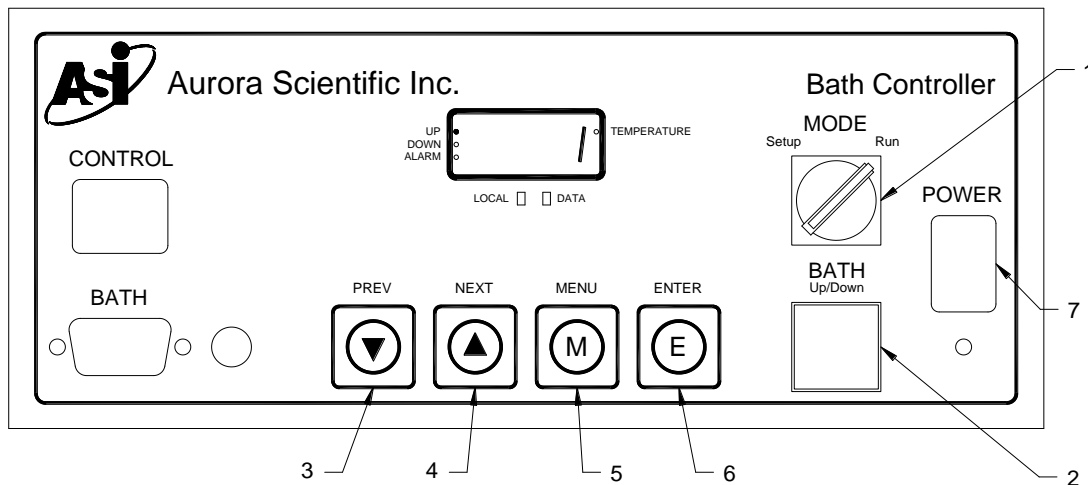
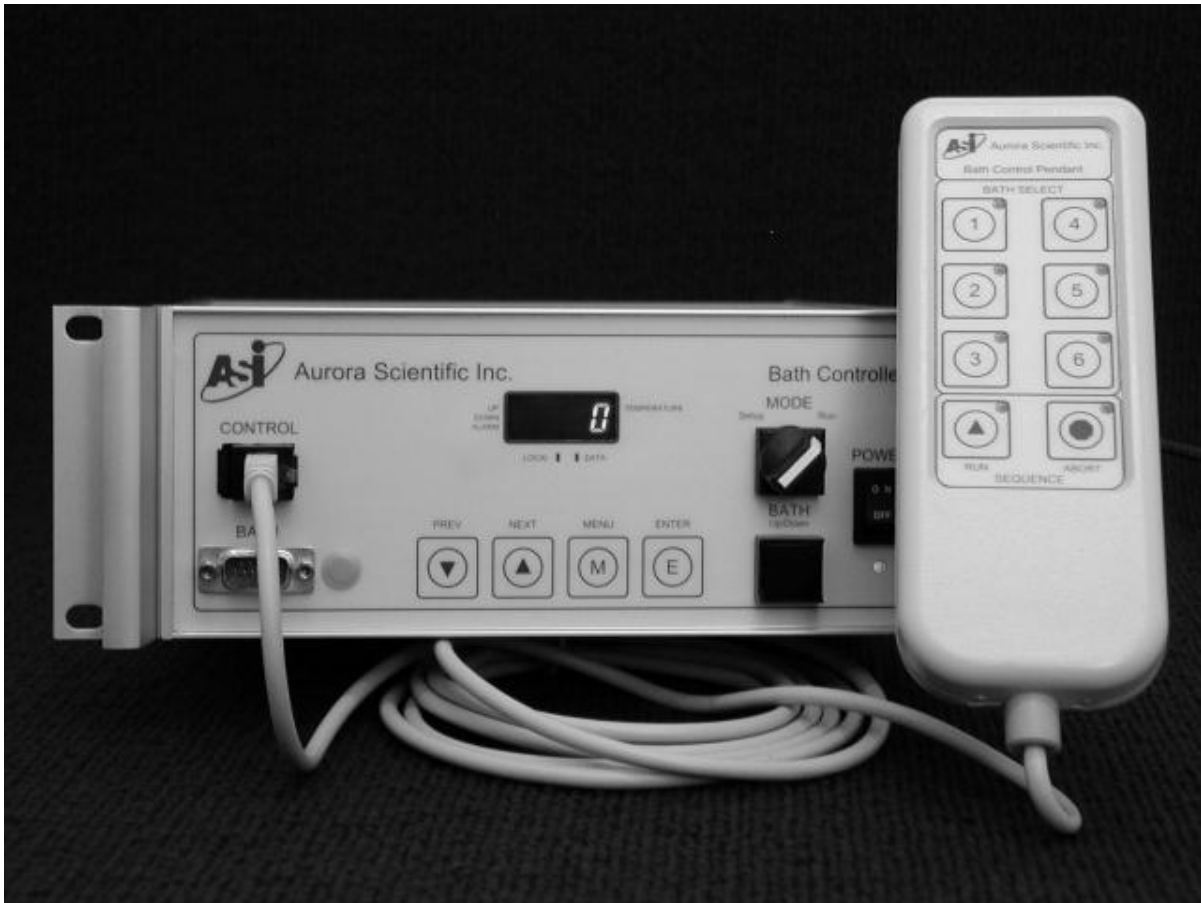

Figure 4 Diagram of Bath Controller Front Panel
Figure 5 Bath Controller with Pendant
Turn the power on using the power switch located on the front panel of the controller. The display should light and show the current position of the bath plate as well as the up/down status of the plate. A zero on the display indicates that the bath plate is in an unknown position between stations or the cable between the controller and the apparatus is not attached. Refer to Figure 4 for a detailed drawing showing the front panel controls and location of the status LEDs. Press and hold the bath 1 number on the pendant control. After about 0.5 seconds the bath plate should lower, then move to position 1 and rise. The system is now in its home (position 1) location and you can proceed to attach the motor and force transducer. Note: if the system stops at any other bath then simply press the bath 1 switch again and the system should move to bath 1. You will also note that the controller has an Up/Down switch and a Setup/Run switch. The Up/Down button will move the plate up if it is down and down if it is up. Repeated presses of this button will simply cycle the bath plate up and down. The Setup/Run switch controls the operating mode of the 802B. In the Setup position the bath will not rise at the end of a movement and the manual up/down button located on the side of the 802B will be activated. In the Run position the manual up/down button is disabled and the bath plate will automatically rise at the end of each movement. Try pressing a bath number when the Setup/Run switch is in both positions and observe the difference. When in Setup try pressing the manual up/down button located above the 15-pin connector on the side of the 802B. The bath plate will rise slowly as long as the button is pressed. When the button is released the plate will return to the down position. The Up/Down switch on the front panel of the controller is operational in both modes. Further details of the controller are provided in chapter 4.
The controller includes a microprocessor, power supply, LED display and front panel switches. The microprocessor monitors and controls the position of the bath plate. The switches on the front panel include a Mode switch (1), up/down switch (2), four menu buttons (3,4,5,6) and a power switch (7). See Figure 4 for a diagram of the front panel. The controller comes with a remote pendant control that can be placed up to 6 feet (2 m) from the controller. The pendant has eight buttons on it including a button for each bath plus Run and Abort buttons for the sequencer (see Figure 5).
The Mode switch (1 in Figure 4) has two positions, Setup and Run. Setup is used during initial equipment setup or anytime the researcher doesn't want the plate to automatically rise at the end of the motion cycle. In Run mode the controller does a complete movement including lowering the plate, indexing to the desired bath well and then raising the plate.